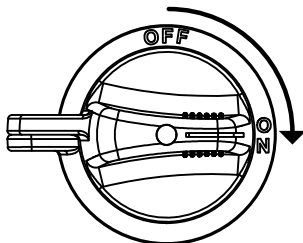

Figure 37. Battery Switch (ON)
2. Set the **Battery switch** (if equipped) to the **ON** position. See Figure 37.